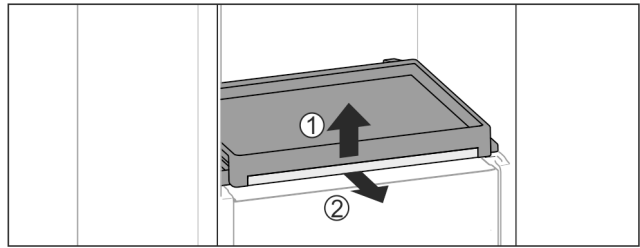

Fig. 107
- ▶ To remove the pull-out board with glass panel: Gently lift the glass panel at the front Fig. 107 (1) and pull out to the front Fig. 107 (2).